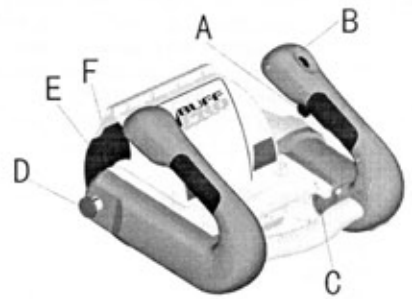

Figure 1
8) COMPONENTS (Figures 1, 2, and 5)
11) **Cleaning and Maintenance (Figure 1, 5, and 6)**
- b) **Maintenance** – If properly used, the power tool is designed for years of use. Carbon Brushes located on either side of the motor under Brush Inspection Caps (C) are wear items and should be regularly inspected. Prior to inspection, ensure that the power tool is unplugged. To inspect brushes, unscrew the Inspection Caps and carefully remove the Carbon Brush. If the Brush has been worn to the indicator line, the Brush should be replaced. Do not reuse damaged Brushes or Inspection Caps. Contact the factory or your local sales representative for replacement Carbon Brushes or Inspection Caps.